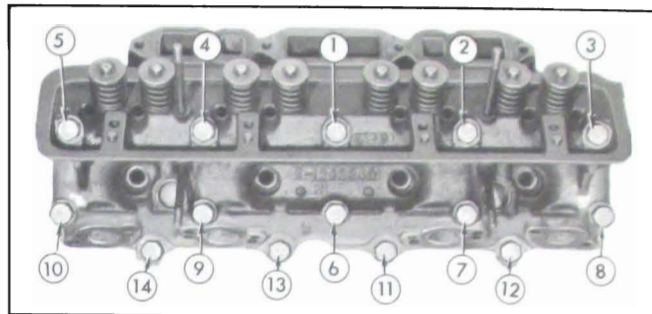

Figure 2-19—Cylinder Head Bolt Tightening Sequence
(1) When handling thin crimped steel gaskets use care to prevent damage to the lacquered surface coat and to prevent kinking at sealing rings stamped in gasket. The lacquered gasket should not be coated with any type of sealing material when installed. Always use a new steel gasket because the stamped sealing rings are flattened in a used gasket.
(2) Right and left cylinder heads are identical except that the water inlet port is open at front end and is plugged at rear end as installed on engine.
(3) After installation of cylinder head, tighten all bolts a little at a time about three times around in sequence shown in Figure 2-19. then finally tighten in same sequence to 65-75 ft. lbs. torque.